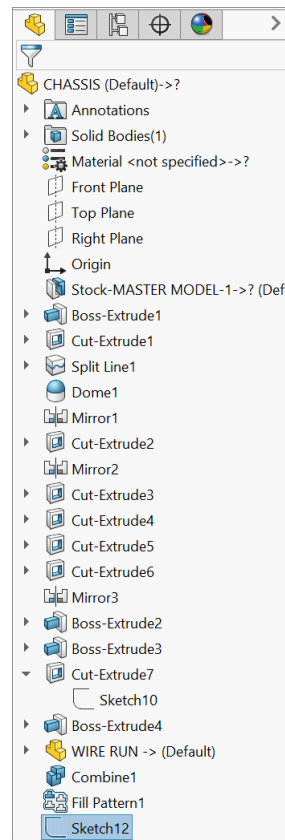

Fig. 107
Step 10. Click **Sketch12**  in Feature Manager to select sketch, **Fig. 107**.